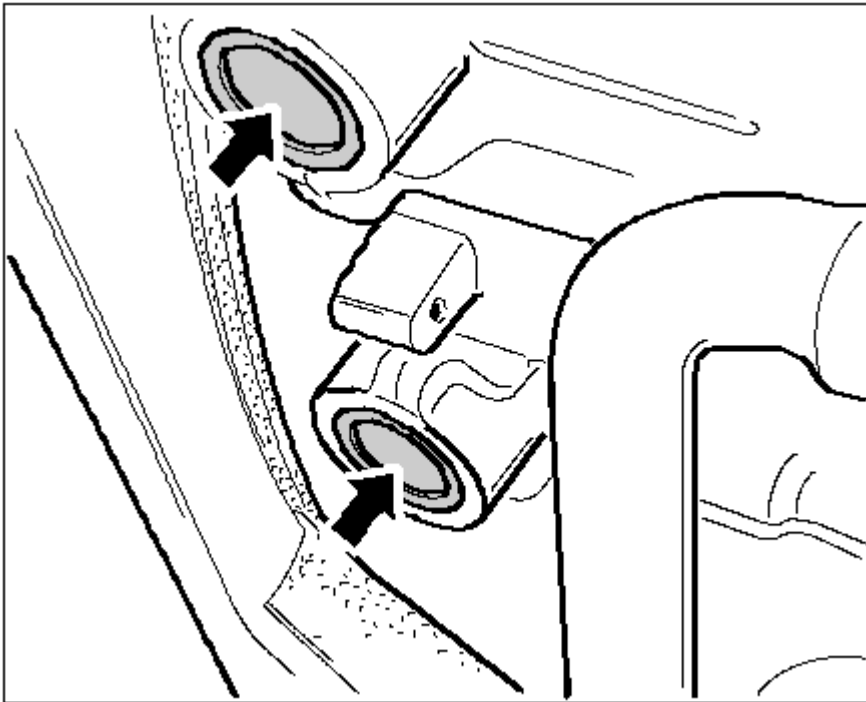

Fig. 3: Cap
1. Remove all four green caps on the camshaft housing covers on both cylinder banks. To do this, press a small screwdriver into the center of the piercing point of each cap -arrows- and lever off the caps. See **Fig. 3**.